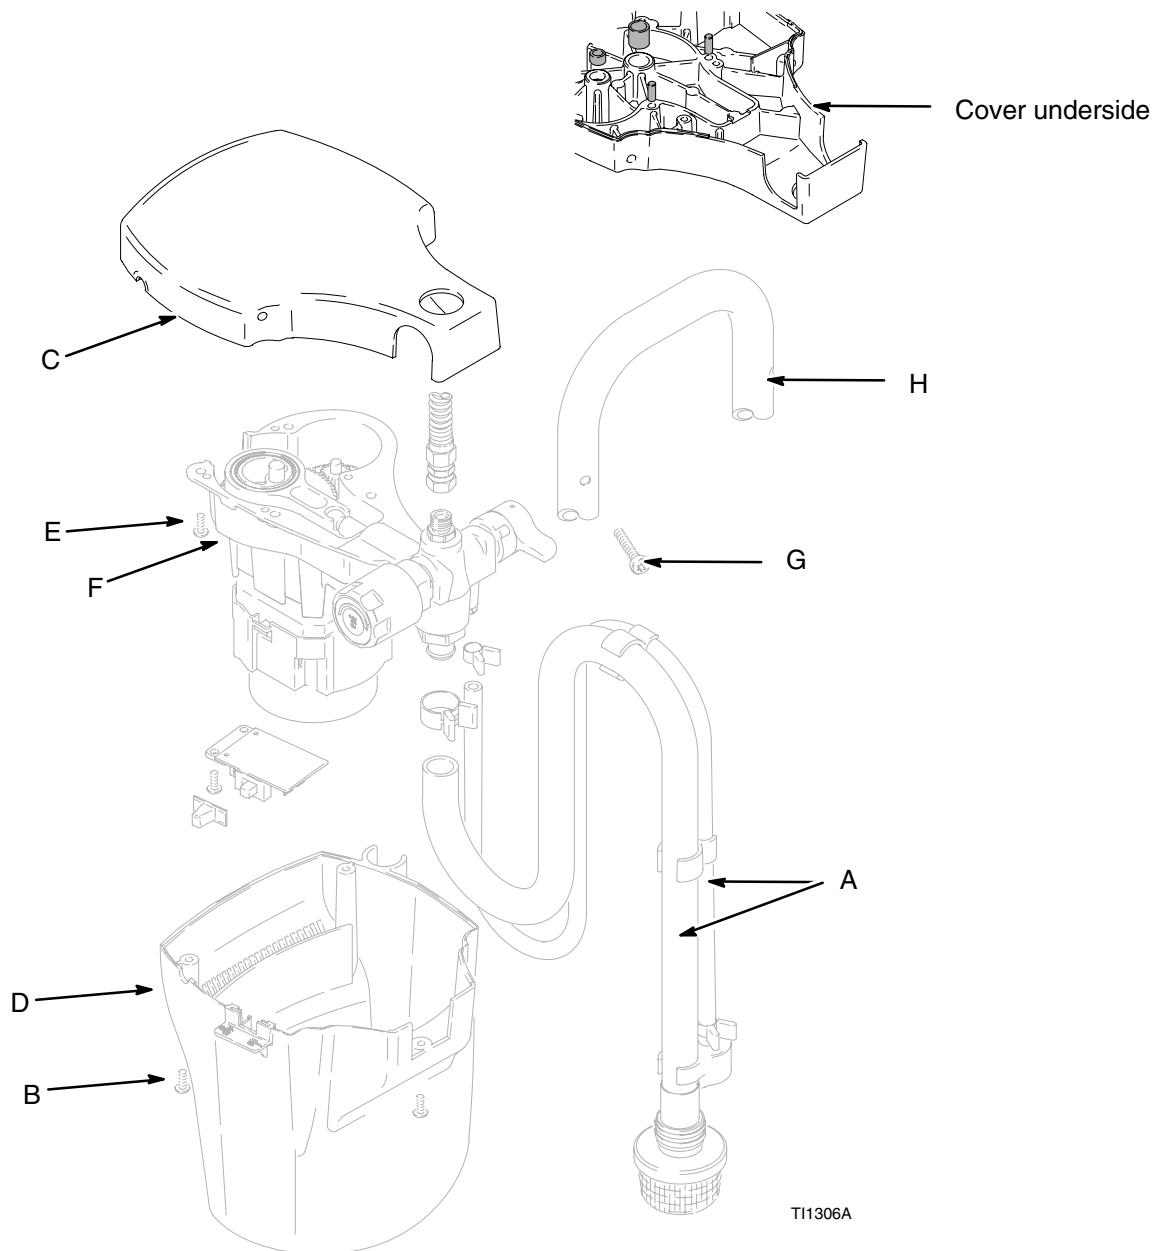
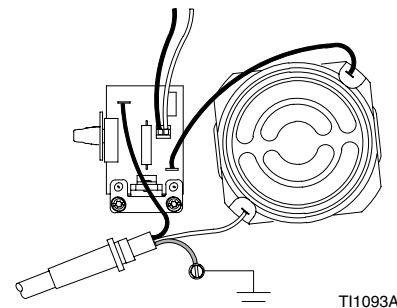

Fig. 1
Fig. 2
5. Remove both motor leads and pressure control switch connections (Fig. 2).
6. Remove 4 screws (E) holding cover (C) to pump housing (F).
1. Put new cover (C) and frame (H) together. Replace screws (G). Torque screws to 70–80 in-pounds (7.91–9.04 N•m).
2. Put new cover (C) and pump housing (F) together. Replace screws (E). Torque screws to 25–35 in-pounds (2.83–3.96 N•m).
3. Connect both motor leads (Fig. 2). One lead goes to the control board; the other goes to the power cord.
4. Replace motor enclosure (D).
5. Replace and tighten screws (B).
6. Reconnect hoses (A).
7. Apply new warning label. Fig. 1.